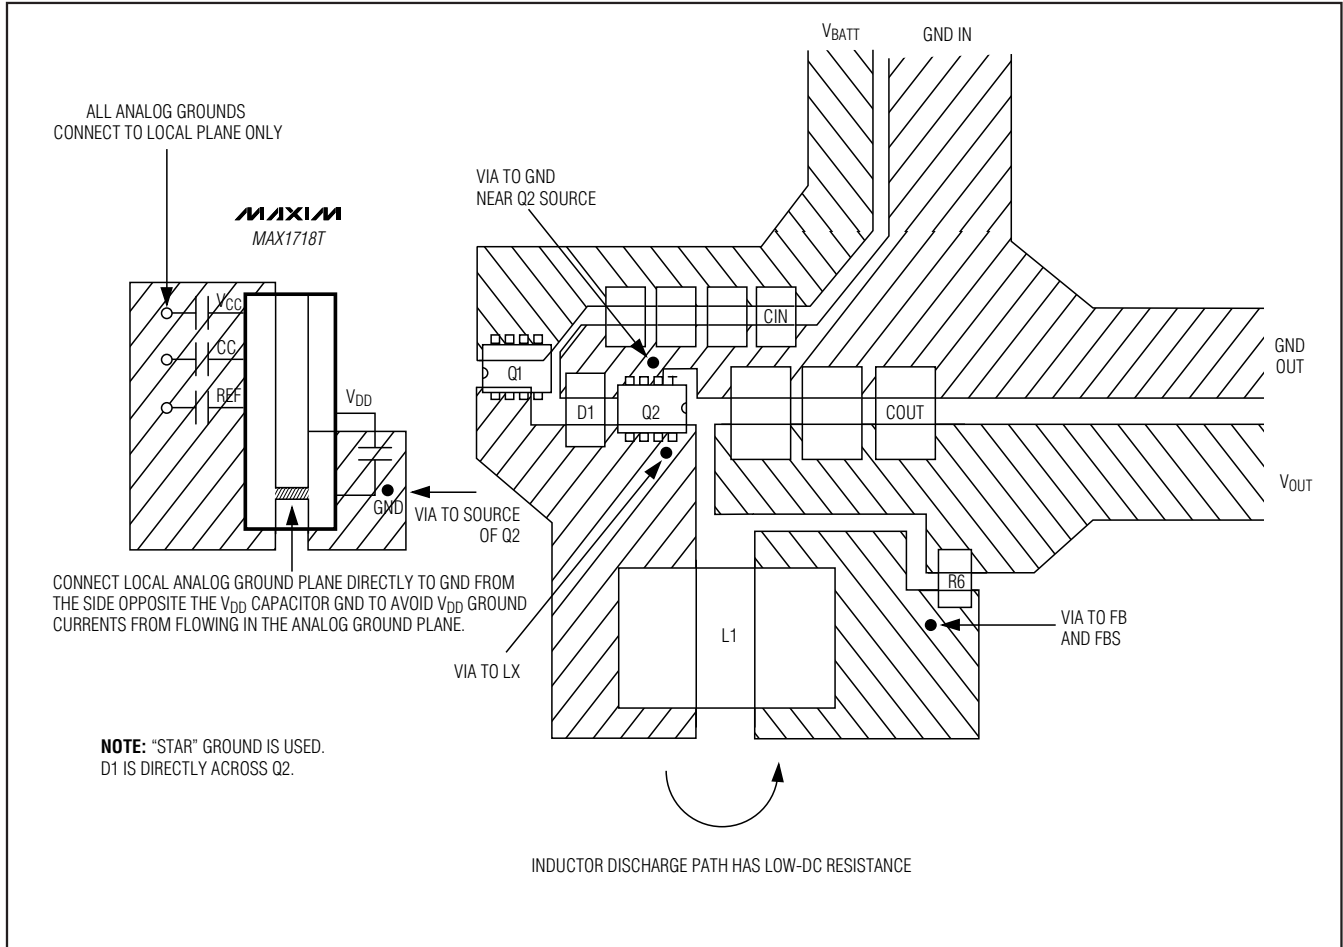

Figure 19. Power-Stage PCB Layout Example
Careful PCB layout is critical to achieve low switching losses and clean, stable operation. The switching power stage requires particular attention (Figure 19). If possible, mount all of the power components on the top side of the board with their ground terminals flush against one another. Follow these guidelines for good PCB layout:
- 4) Make the DC-to-DC controller ground connections as shown in Figure 19. This diagram can be viewed as having three separate ground planes: output ground, where all the high-power components go; the GND plane, where the GND pin and VDD bypass capacitors go; and an analog ground plane where sensitive analog components go. The analog ground plane and GND plane must meet only at a single point directly beneath the IC. These two planes are then connected to the high-power output ground with a short connection from GND to the source of the low-side MOSFET Q2 (the middle of the star ground). This point must also be very close to the output capacitor ground terminal.